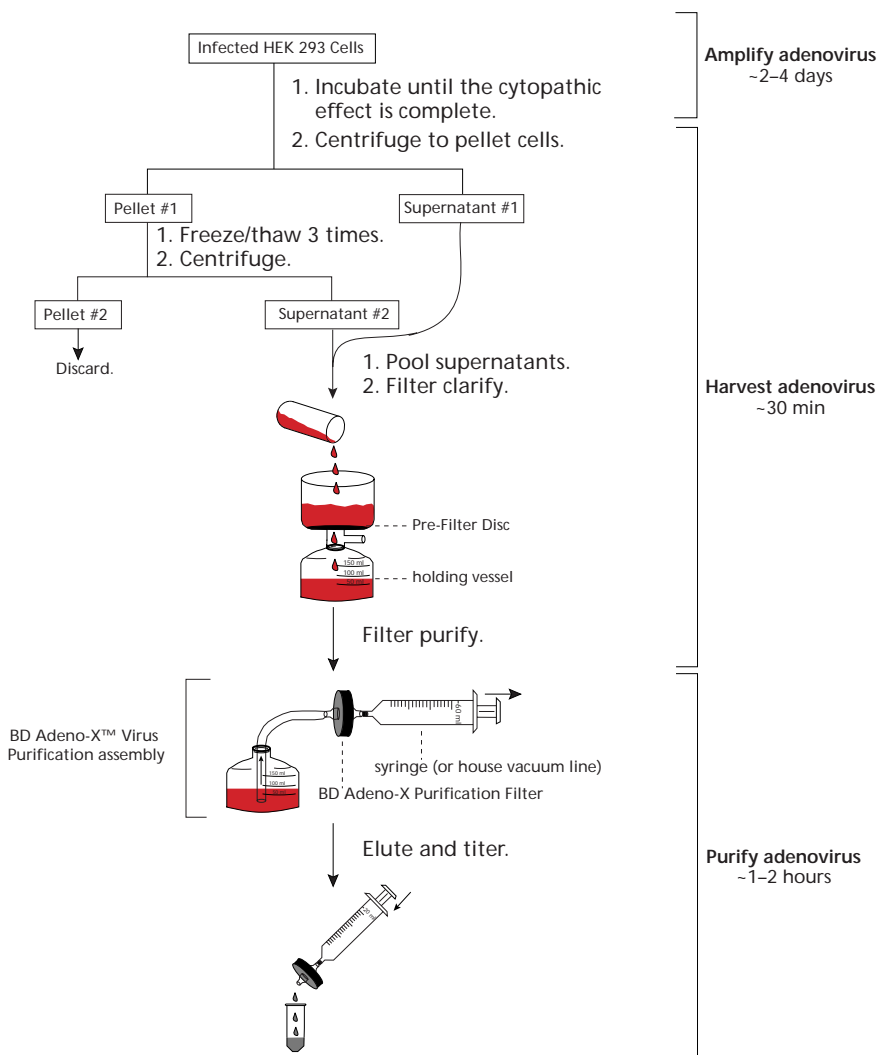

Figure 1. Overview of the BD Adeno-X™ Virus Purification protocol.
After importing your data and defining the experimental parameters of interest, you can perform a number of different analyses such as k-Means Clustering and statistical treatment of replicates. You can also use a Drawn Gene to define an expression pattern of interest and then find genes that match it. Regardless of the analysis performed, the expression data for the entire experiment—as many arrays as you wish—can be viewed in a variety of formats including line graphs, histograms (Figure 1), and scatter plots. BD AtlasNavigator also makes it easy to focus on just the genes of interest by allowing you to restrict the display to user-determined gene sets. When you evaluate data using the pre-defined functional classifications, which have been carefully selected by our Bioinformatics team, you can quickly see the biological relevance of your data. And with the new Global Error Model, you can verify that your conclusions are statistically significant—even when you're working with a small number of samples.
**Figure 1.** BD AtlasNavigator™ 2.0 software facilitates the management of data from multiple experiments. **Panel A.** Samples from 5 rats treated with 50 mg/kg of a potential carcinogen (arrays 1–5) and 5 untreated rats (arrays 6–10) were hybridized to the BD Atlas™ Rat Toxicology 1.2 Array (#7860-1). The variation in signal intensities from array to array is common and may be attributed to many factors, including animal-to-animal differences. **Panel B.** A graphical representation of array-to-array signal intensity differences. Comparing such arrays requires normalization. **Panel C.** The signal intensities after arrays are normalized to the average combined array signal.
removed from the solution. The bound particles can then be eluted with a small volume of Elution Buffer. The entire protocol, from harvest to purification, takes 2–3 hours to complete (Figure 1).
**Figure 1. Photomicrographs of cells infected with BD Adeno-X™ Marker Viruses.** HeLa cells were infected with either BD Adeno-X-EGFP (Panel A) or BD Adeno-X-DsRed2 (Panel B) at a multiplicity of 10, incubated for 48 hr, and then observed by fluorescence microscopy using a Zeiss Axioskop equipped with the appropriate light filters. The images were recorded with a color digital camera. BJ human foreskin fibroblasts were infected with BD Adeno-X-LacZ at a multiplicity of 25, incubated for 48 hr, and then stained with X-Gal (Panel C).